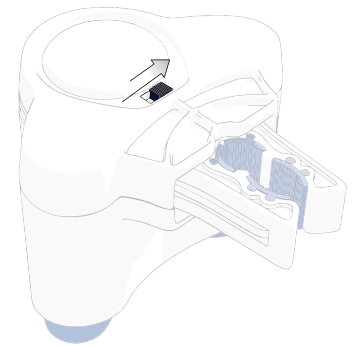

FIGURE 3
5. Completely insert the open nib of the anti-fog solution bottle into the reservoir opening of the See Sharp unit. (*figure 3*)
7. Allow five (5) minutes for See Sharp to reach optimal temperature.